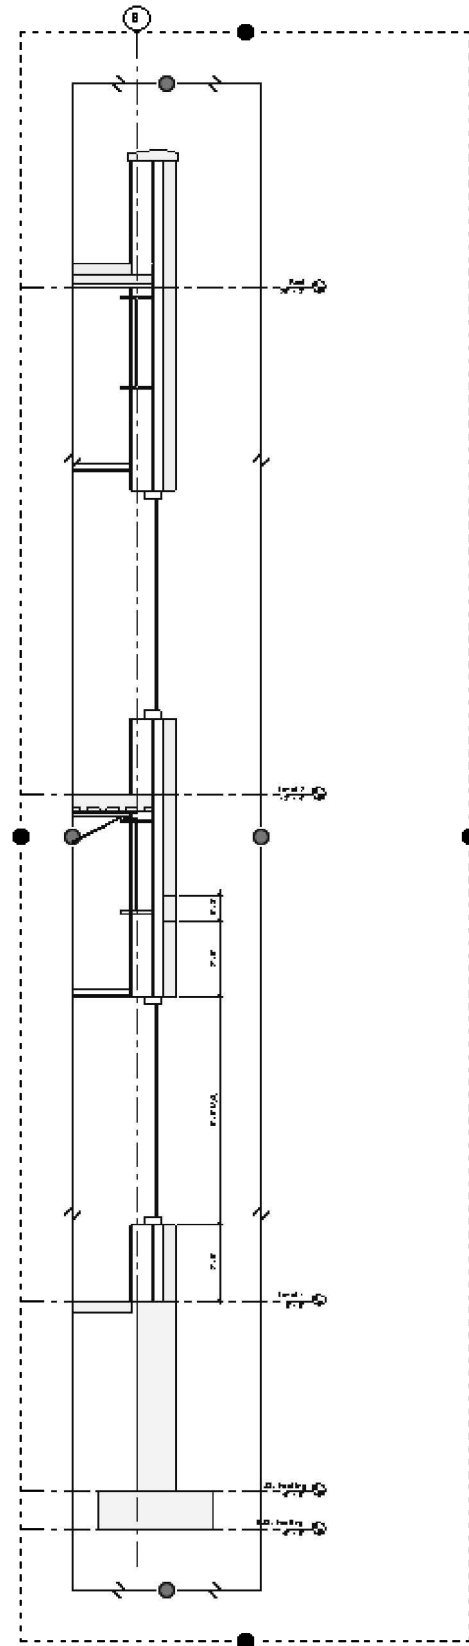

FIGURE 10-4.6 Crop Region edits
15. Drag the control grips for the vertical dashed line on the right as per **Figure 10-4.6**.